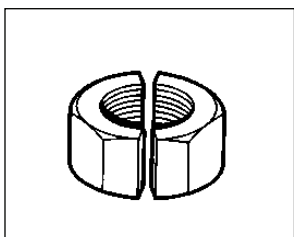

Figure 9: Making Two Cuts
12. If necessary, a second cut may be applied, at 180° to the first, completely severing the nut in half. See Figure 9.